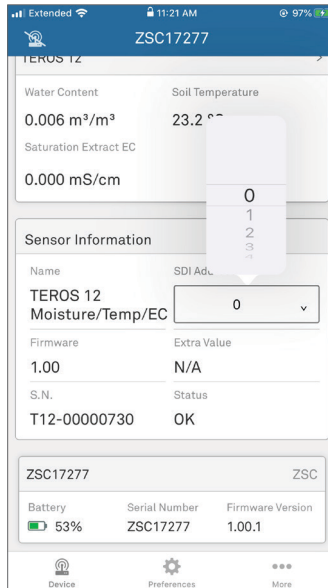

Figure 13 SDI-12 Address dropdown
3. Under Sensor Information, select the SDI Address dropdown (Figure 13).